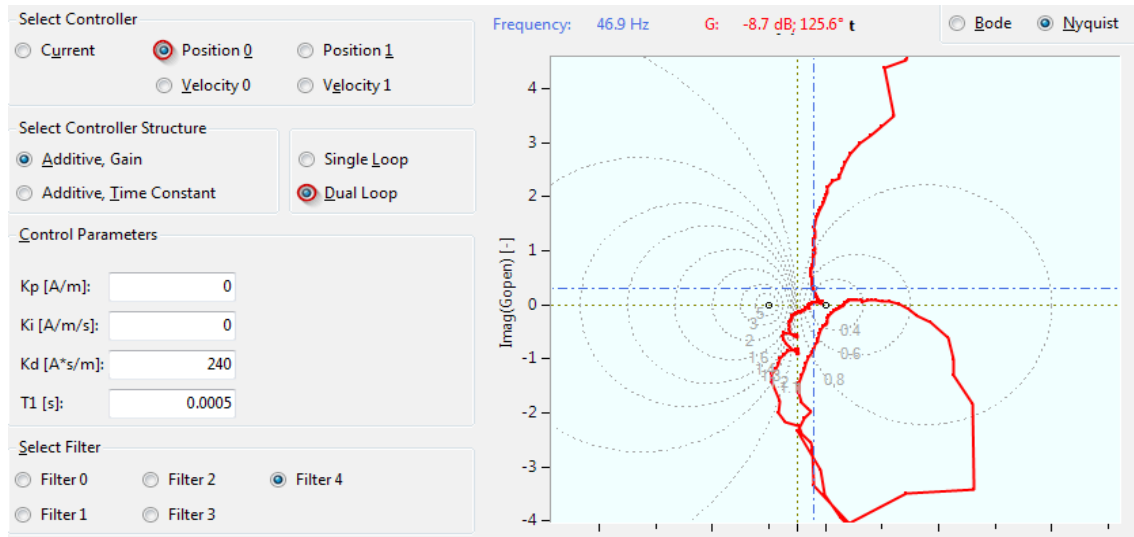

Figure 11: Nyquist plot of the inner controller with closed outer controller loop.
- Activate **Position 0** in the **Select Controller** panel and **Dual Loop** in the **Select Controller Structure** panel and activate the **Nyquist** plot view (Figure 11).